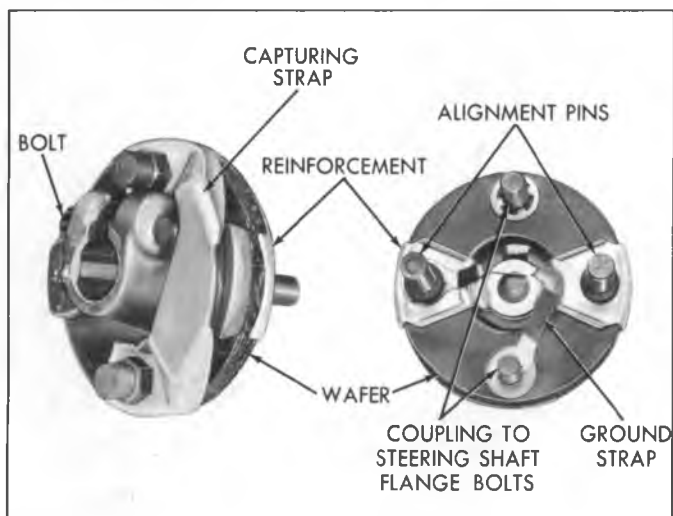

Fig. 8—Flexible Type Steering Coupling
1. Install the new coupling onto the wormshaft, aligning the flat on the shaft with the flat in the coupling. Push the coupling onto the shaft until the coupling reinforcement bottoms on the shaft. Install the coupling clamp bolt and torque to specifications (fig. 8).
NEUTRAL START SWITCH REPLACEMENT (Fig. 8) AUTOMATIC TRANSMISSION